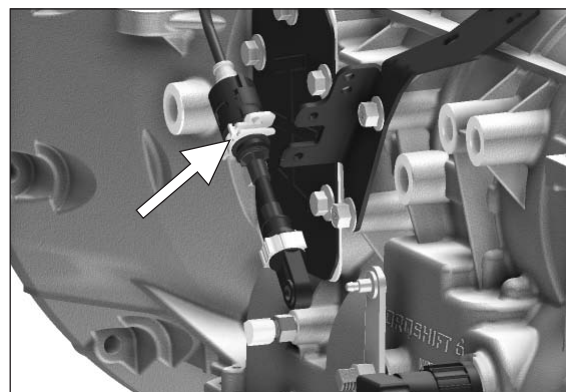

Figure 84
- Pull the clip and selector lever cable from the selector lever cable bracket (**Fig. 84**).